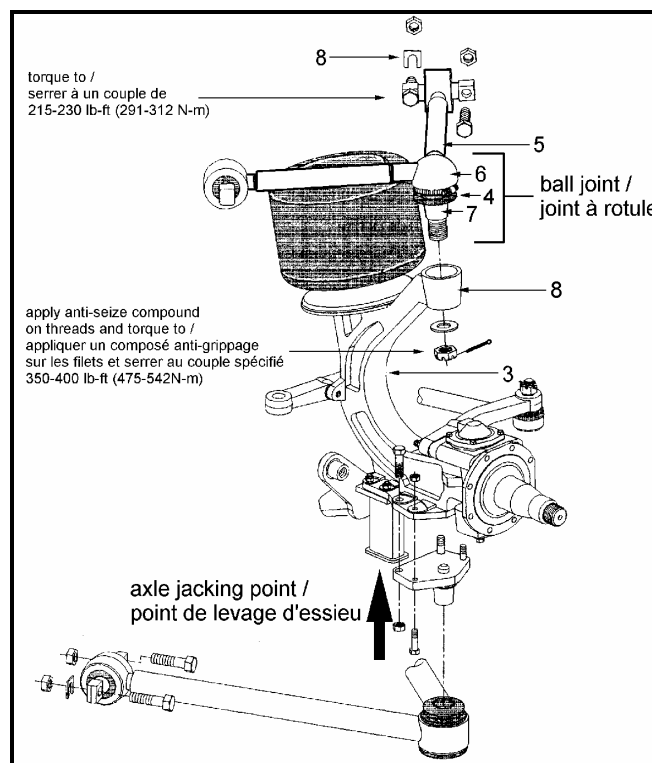

FIGURE 5 : INDEPENDENT FRONT SUSPENSION DETAIL
3. Support the uprights • (figure 5) with a suitable jack stand at the upright jacking point (figure 5).
6. Check the boot • (figure 5) for perforations or grease leaks.
- II. If sealing boot is perforated, there are traces of grease contamination or rust and the socket ● (figure 5) is not in good condition (see next step), the upper A-arm ● has to be replaced (Part C).
7. Locate the ball joint (figure 5).
3. Support the upright ● (figure 5) with a suitable jack stand at the upright jacking point (figure 5).
6. Remove the cotter pin and partially unscrew the ball element retaining nut (figure 5). With the use of a hydraulic jack or a puller, extract the ball element from the conical sleeve • (figure 5). To facilitate extraction, change the position of the A-arm by changing the height of the vehicle.